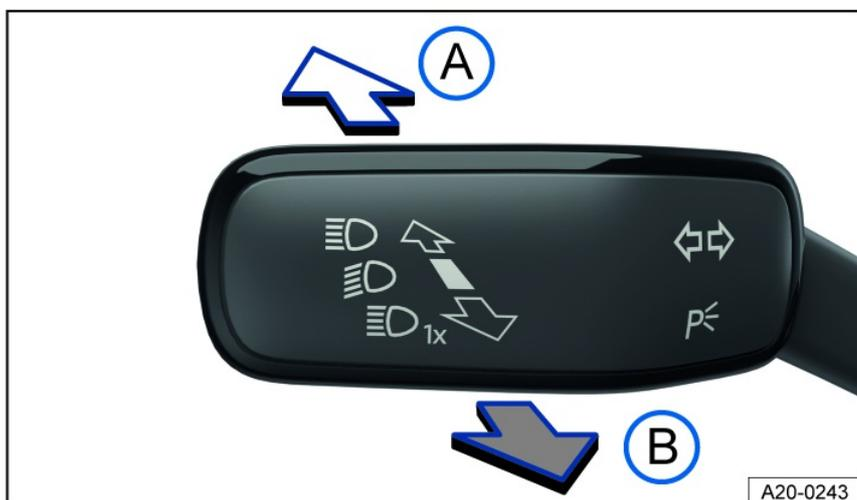

Fig. 96 On the left side of the steering column: turn signal and high beam lever.
2. Press the turn signal and high beam lever forward out of the center position *fig. 96*.
1. Pull the turn signal and high beam lever backward out of the center position *fig. 96*.
1. Pull the turn signal and high beam lever backward out of the center position and hold it *fig. 96*.